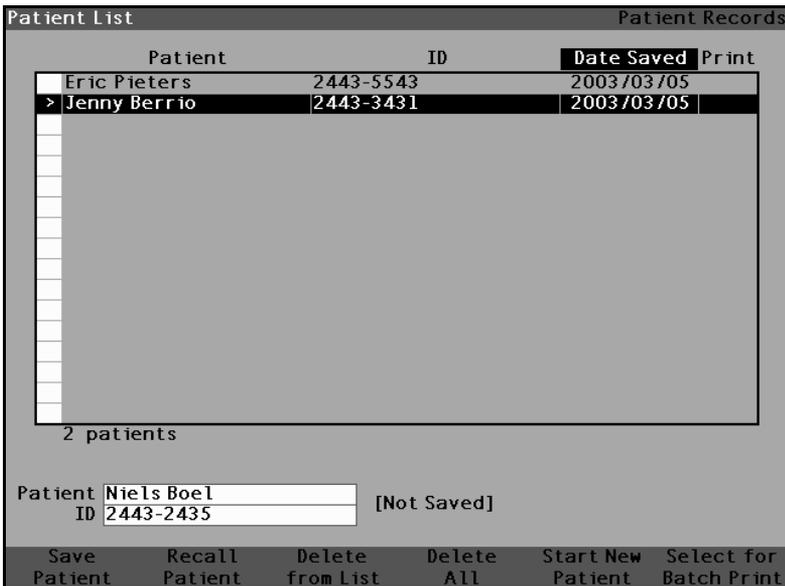

Figure 155 Patient Record Screen
1. Press the "Patient Records" button located at the right side of the instrument. The Patient Record Screen as shown in Figure 155 below will be displayed.